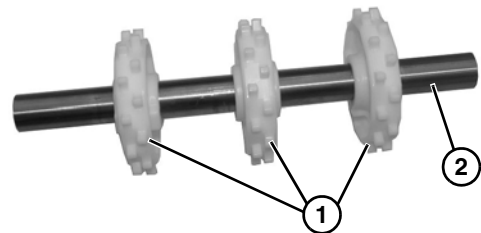

Figure 59
2. Remove three sprockets (**Figure 59, item 1**) off of shaft (**Figure 59, item 2**).